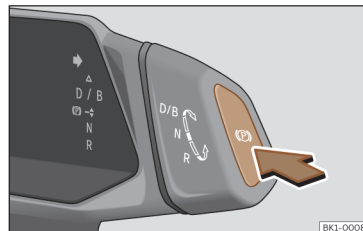

Fig. 118 On the gear selector: electronic parking brake button
- While the vehicle is stationary, press the button (E) >>> **Fig. 118**.
- Press the button **(P)** >>> **Fig. 118**. The electronic parking brake is activated.